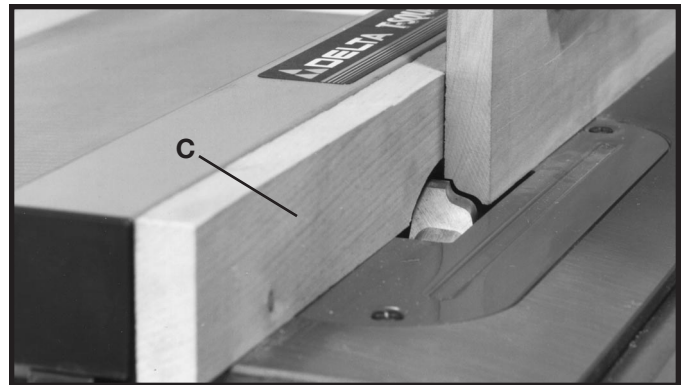

Fig. 62
CAUTION It is necessary when using the moulding cutterhead to add wood-facing (C) to the face of the rip fence, as shown in Fig. 62. The wood-facing is attached to the fence with two clamps, as shown. 3/4 inch stock is suitable for most work although an occasional job may require 1 inch facing.
Position the wood-facing over the cutterhead with the cutterhead below the surface of the table. Turn the saw on and raise the cutterhead. The cutterhead will cut its own groove in the wood-facing (C) Fig. 62.